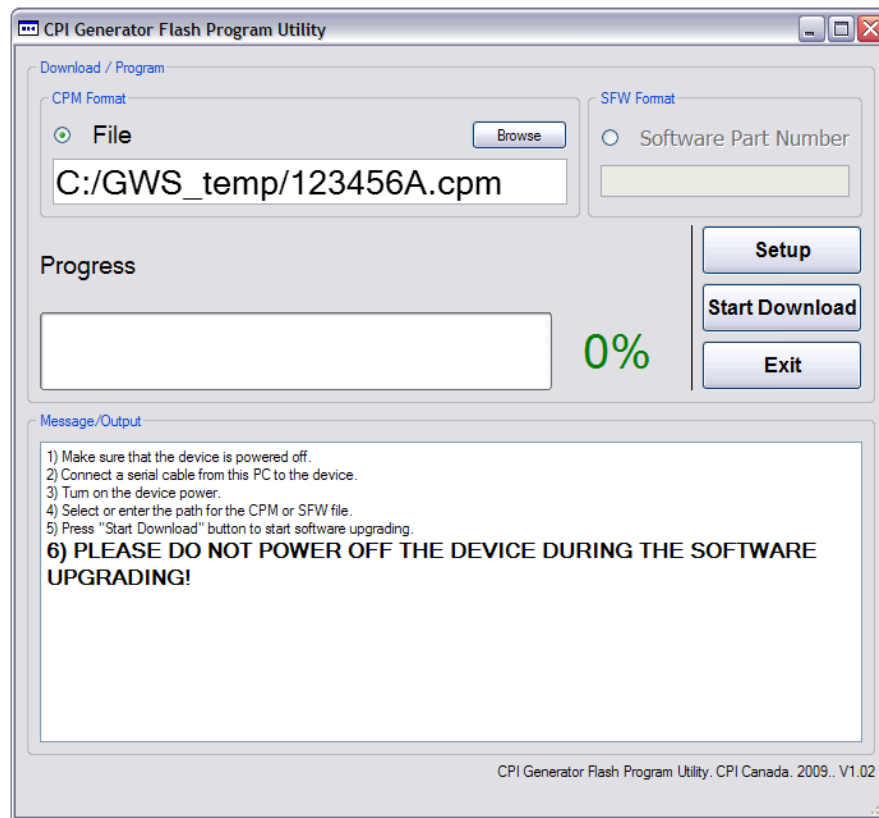

Figure 6-2: Console downloader utility
9. Select **Firmware Updater**  on the GenWare® toolbar. The **CPI Generator Flash Program Utility** will open. Refer to Figure 6-2.
6. Start GenWare® on your PC. Then select Firmware Updater  on the GenWare® MP toolbar. The CPI Generator Flash Program Utility will open. Refer to Figure 6-2.